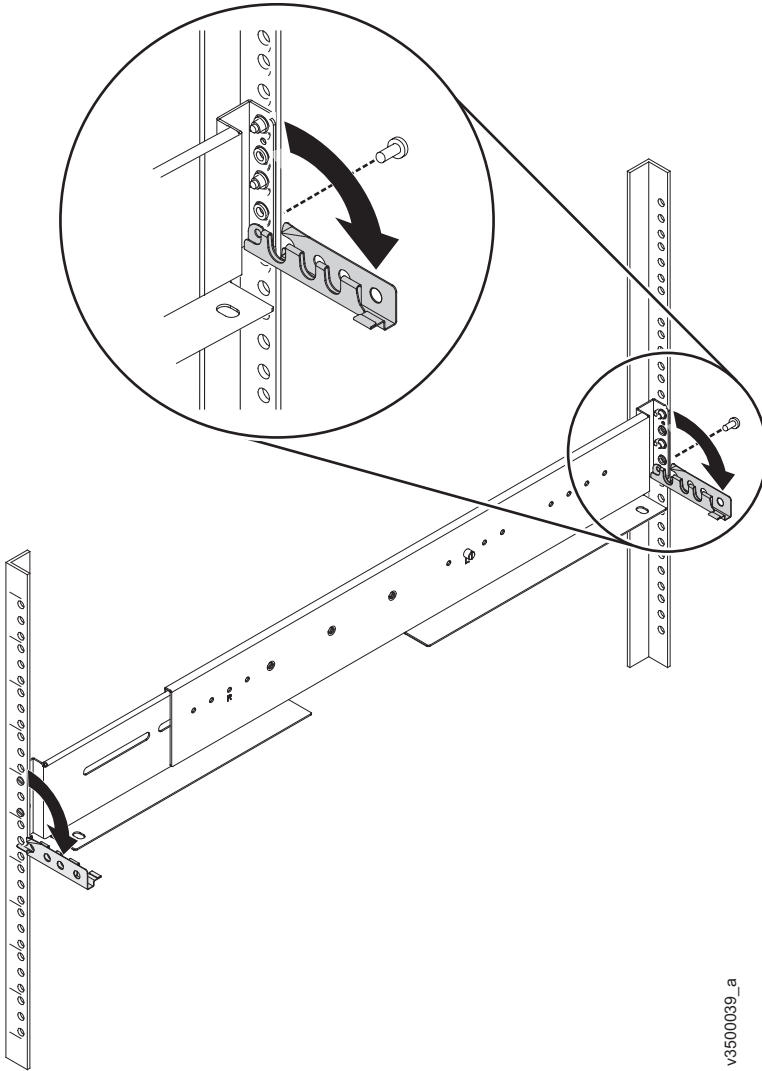

Figure 40. Opening rear hinge bracket of mounting rail
9. At the rear of the rack, remove the securing M5 screw from the bottom hole of the rear bracket of the rail, then open the rear hinge bracket (Figure 40 on page 178).